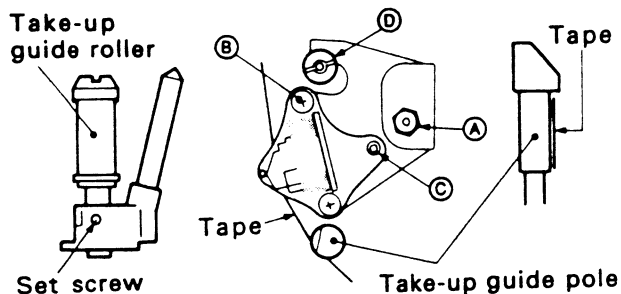

Fig.7-6 Take-up guide pole
- If the tape separates from the guide or wrinkling occurs at the take-up guide pole, adjust by turning screw © of the Audio/CTL Head as shown in Fig.7-6.